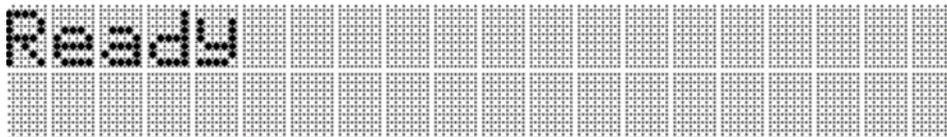

Figure 2.6 LCD screen, idle state
- 2.4.3. The LCD screen displays the device name, model number, and software version. After a short delay, the system enters an idle state. The LCD screen says “Ready.” See Figure 2.6.
- 3.1.1. Ensure that the 3800 generator is in an idle state. The LCD screen says “Ready.” See Figure 2.6
3.2.1. Ensure that the generator is in an idle state. The LCD screen says “Ready.” See Figure 2.6.